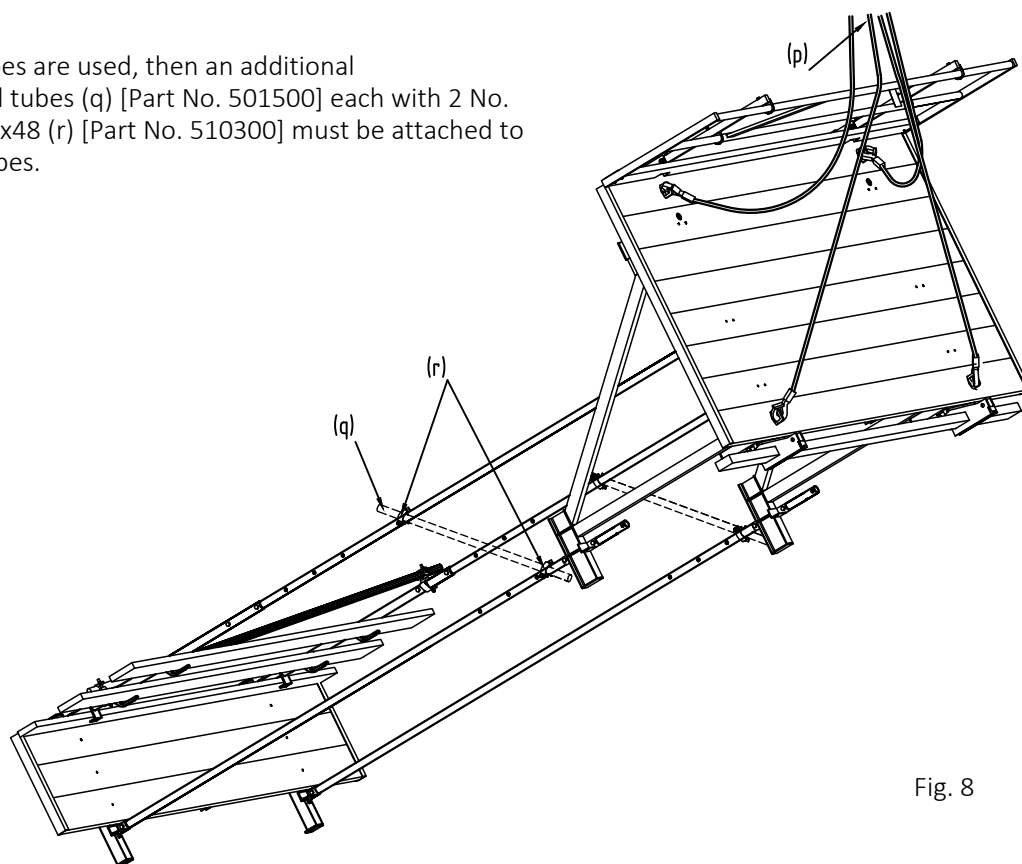

Fig. 8
- 8 Attach the quadruple crane ropes (p) to the stirrups sunk into the boarding. Release the stabilizers from the substrate and from the working platform and then slowly lift the working platform with suspended lower platform (see Fig. 8).